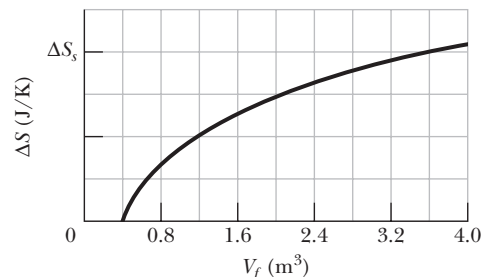

Fig. 20-23 Problem 12.
•12 A gas sample undergoes a reversible isothermal expansion. Figure 20-23 gives the change  $\Delta S$  in entropy of the gas versus the final volume  $V_f$  of the gas. The scale of the vertical axis is set by  $\Delta S_s = 64$  J/K. How many moles are in the sample?